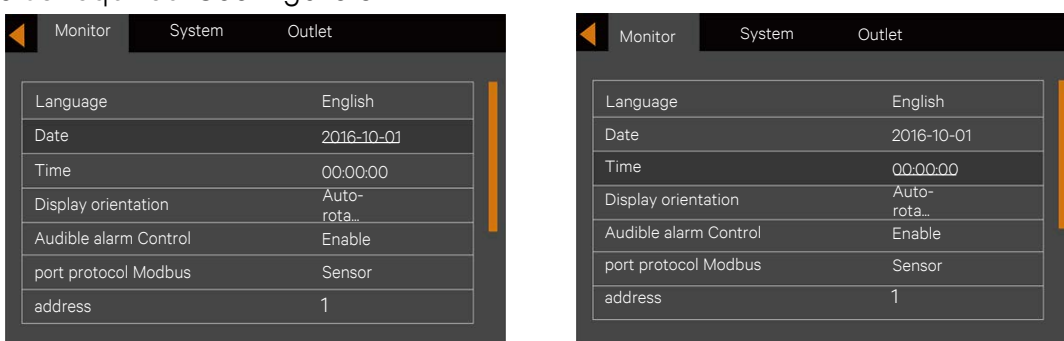

Figure 5-17 Changing date and time
4. Press the  key, move the cursor and press the  or  key to change the date and time as required. See Figure 5-17.